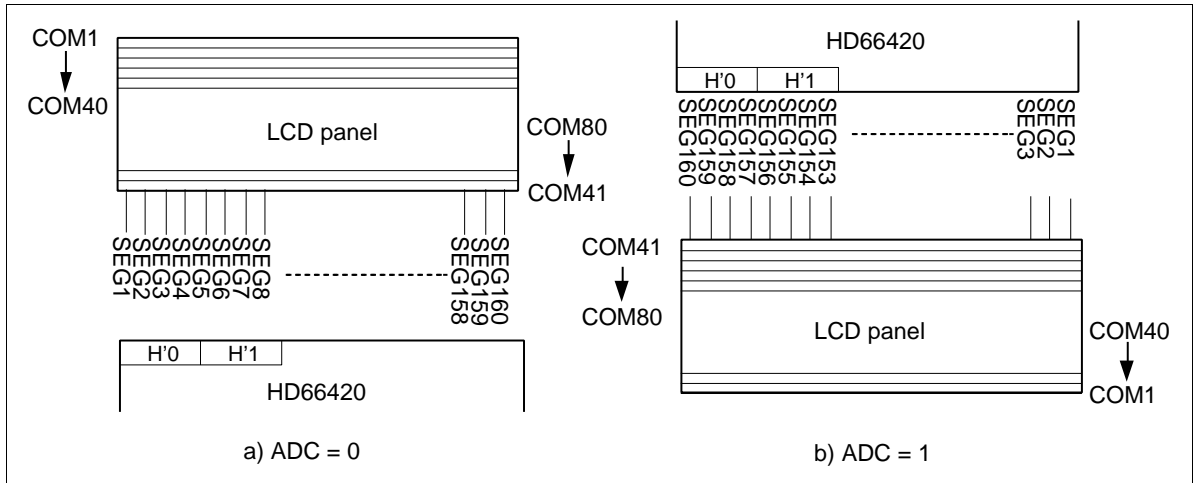

Figure 19 LCD Driver Layout and RAM addresses : 1/80 Duty cycle
**Column Address Inversion According to LCD Driver Layout:** The HD6420 can always display data in address H'0 on the top left of an LCD panel regardless of where it is positioned with respect to the panel. This is because the HD66420 can invert the positional relationship between display RAM addresses and LCD driver output pins by inverting RAM addresses. Specifically, the HD66420 outputs data in address H'0 from SEG1 when the ADC bit in control register 1 is 0, and from SEG160 otherwise. Here, the scan direction of common output is also inverted according to the situation as shown in figure 19. Note that addresses and scan direction are inverted when data is written to the display RAM, and thus changing the ADC bit after data has been written has no effect. Therefore, hardware control bits such as ADC must be set immediately after reset is canceled, and must not be set while data is being displayed.